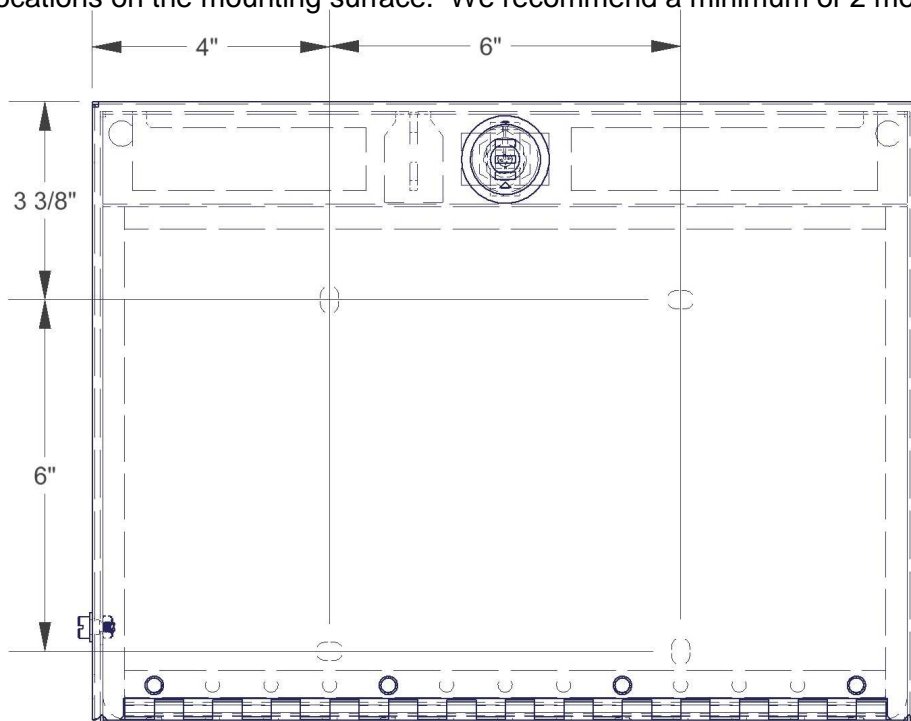

FIGURE 2
1. Determine the mounting location of the Safe. Using the drawing in Figure 2 locate and prepare the mounting locations on the mounting surface. We recommend a minimum of 2 mounting points.